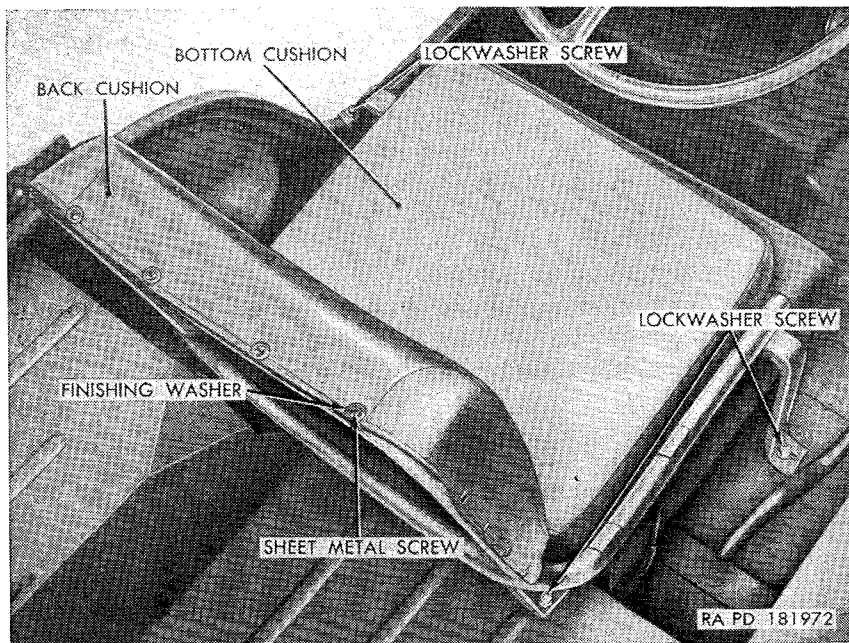

Figure 191. Driver's seat assembly (M38A1)—installed.
a. Driver's Seat Assembly (fig. 191).
- (1) *Removal.* Remove the four lockwasher screws and flat washers securing the driver's seat frame to the front and rear floor pans, left side body panel, and left rear wheel well panel.
d. Driver's and Passenger Seat Cushion Assemblies (figs. 191 and 192).
- (1) *Removal.* Remove driver's seat assembly (a(1) above). Remove passenger seat assembly (b(1) above).